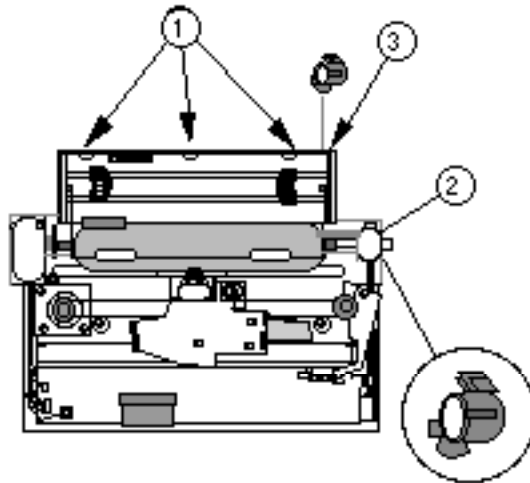

FIGURE 14
16. Locate the three plastic locking tabs (Figure 14, #1) on the inside of the printer case above the mechanical assembly and below the tractor assembly . Carefully push back on the rear of the printer case, releasing the tabs that help secure the mechanical assembly to the printer case. As you push back on these tabs, gently lift the mechanical assembly by pulling up on the tractor assembly. Make certain the sheetfeeder option plug is pushed off its mount.
17. Pull off the black plastic friction/tractor adjustment piece (Figure 14, #2) from the right side of the platen and place it between the frame and the printer case just above the transformer (Figure 14, #3). This piece will act as a wedge and will support the mechanical assembly at the height necessary to perform the remaining steps of this procedure. The long leg that fits down into the paper friction gears will rest on the back side of the plastic case.